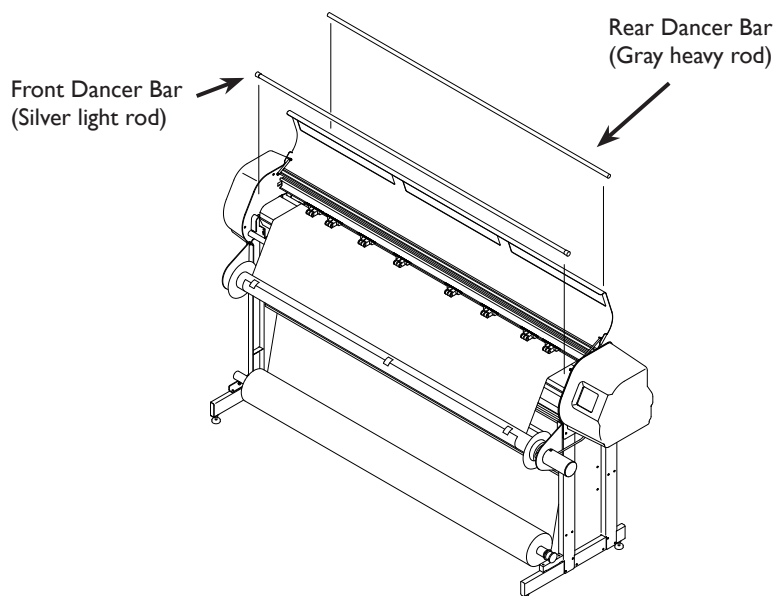

Figure 21. Inserting the dancer bars.
2. Hold the paper in place over the rear top bar and insert the rear (heavy, gray) dancer bar into the rear dancer bar channel. Apply gentle pressure to control the paper feed as gravity pulls the heavy bar into the channel. See *Figure 21*.